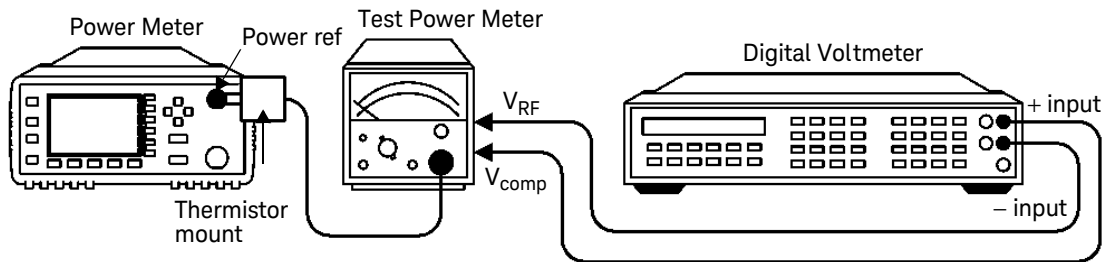

Figure 2-6 Power Reference Level Test Setup
- 2 Round off the DVM reading to two decimal places and note this value as the internal bridge resistance (R) of the Keysight 432A (approximately 200 Ω).
- 3 Connect the equipment as shown in Figure 2-6, ensuring that the DVM input leads are isolated from chassis ground.